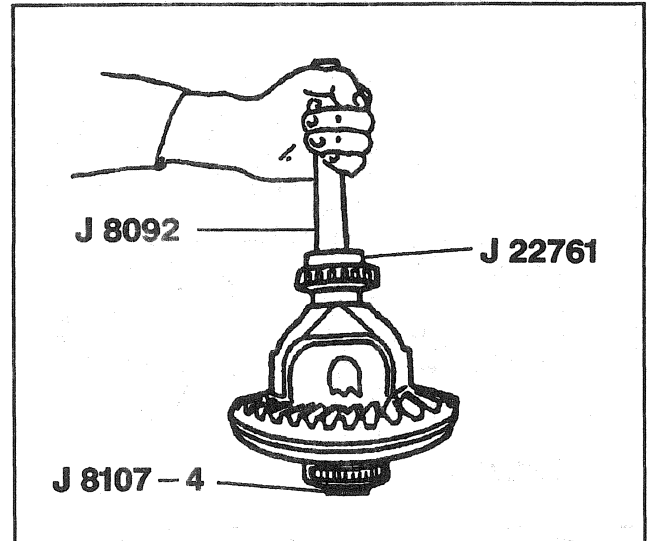

Figure 20—Installing the Side Bearing
7. Differential side bearings (8) using J 22761, J 8107-4, and J 8092 (Figure 20).